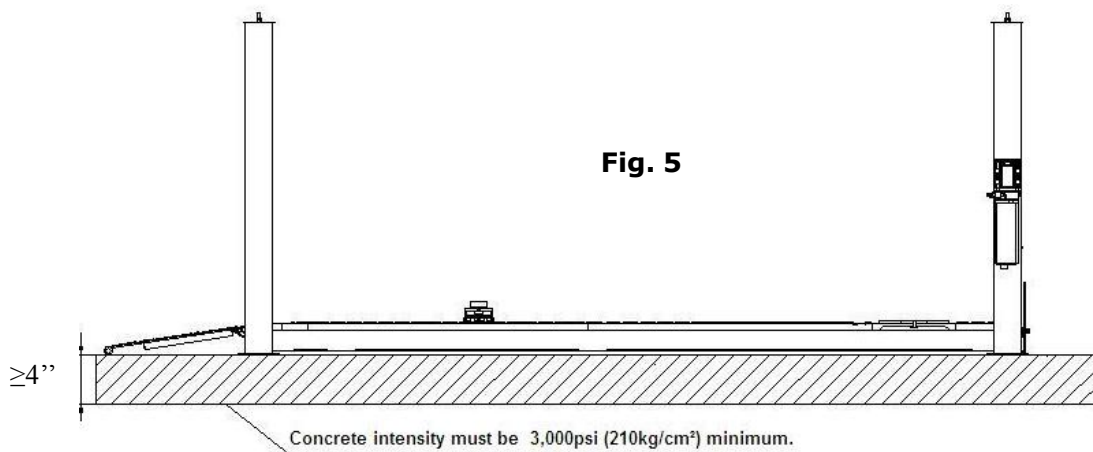

Fig. 5
D. SPECIFICATIONS OF CONCRETE (See Fig. 5)